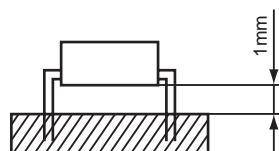

Fig. 3
- (1) Temperature : Max. 260°C
- (2) Time : Max. 3sec
- (3) Clearance : Min. 1mm from the case edge. (Fig. 3)